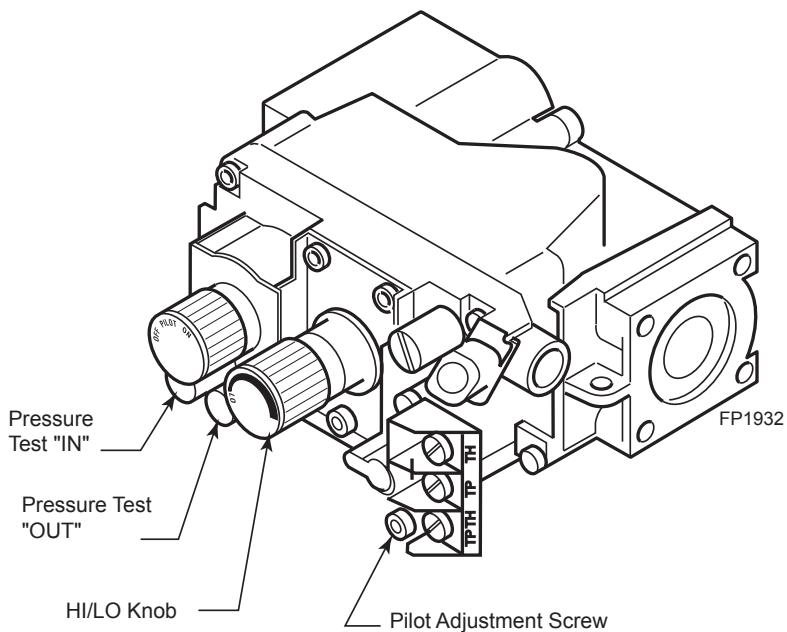

Figure 13 -
5. To check gas pressures at valve, turn captured screw counter clockwise 2 or 3 turns and then place tubing to pressure gauge over test point. Turn unit to high. *Figure 13*. After taking pressure reading, be sure and turn captured screw clockwise firmly to reseal. Do not over torque. Check test points for gas leaks with a soap and water solution or an electronic gas leak detector.